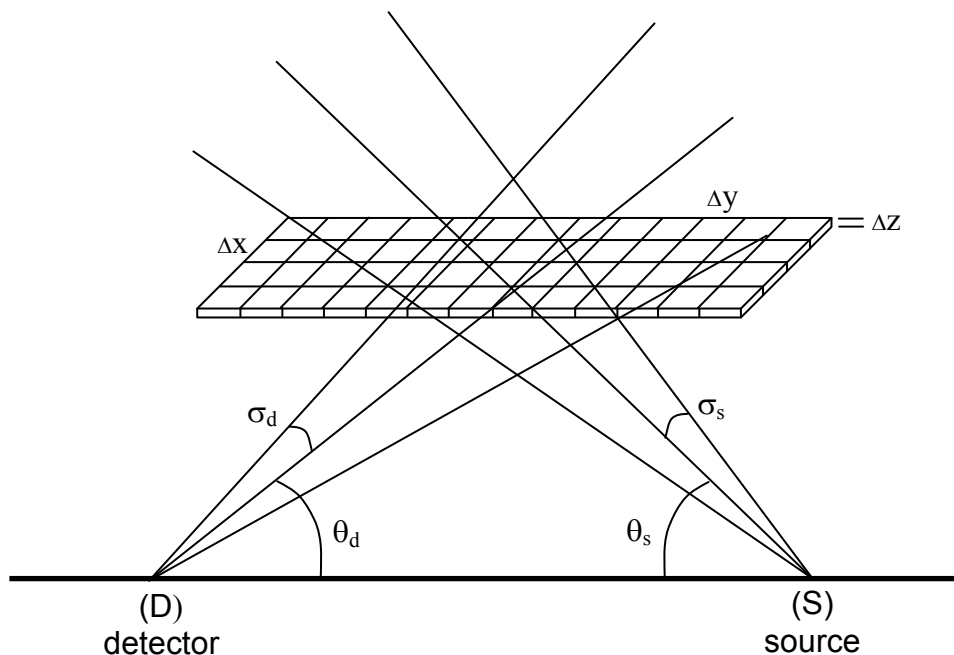

Figure 4. General geometry of the sensor
2. The detector (D) and the source (S) are separated by a distance SD (Figure 4).